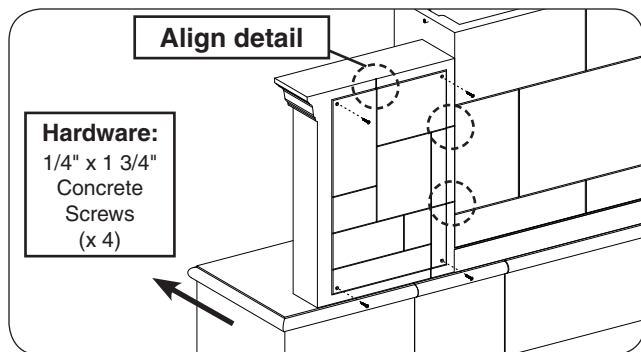

Fig. 19-2 Assemble rear side-wall (skip if n/a)
2. Each rear side-wall piece is marked to align detail. Place one rear side-wall piece in position against the rear of the main piece, then fasten using a Phillips screwdriver and the supplied concrete screws (see Fig. 19-2).